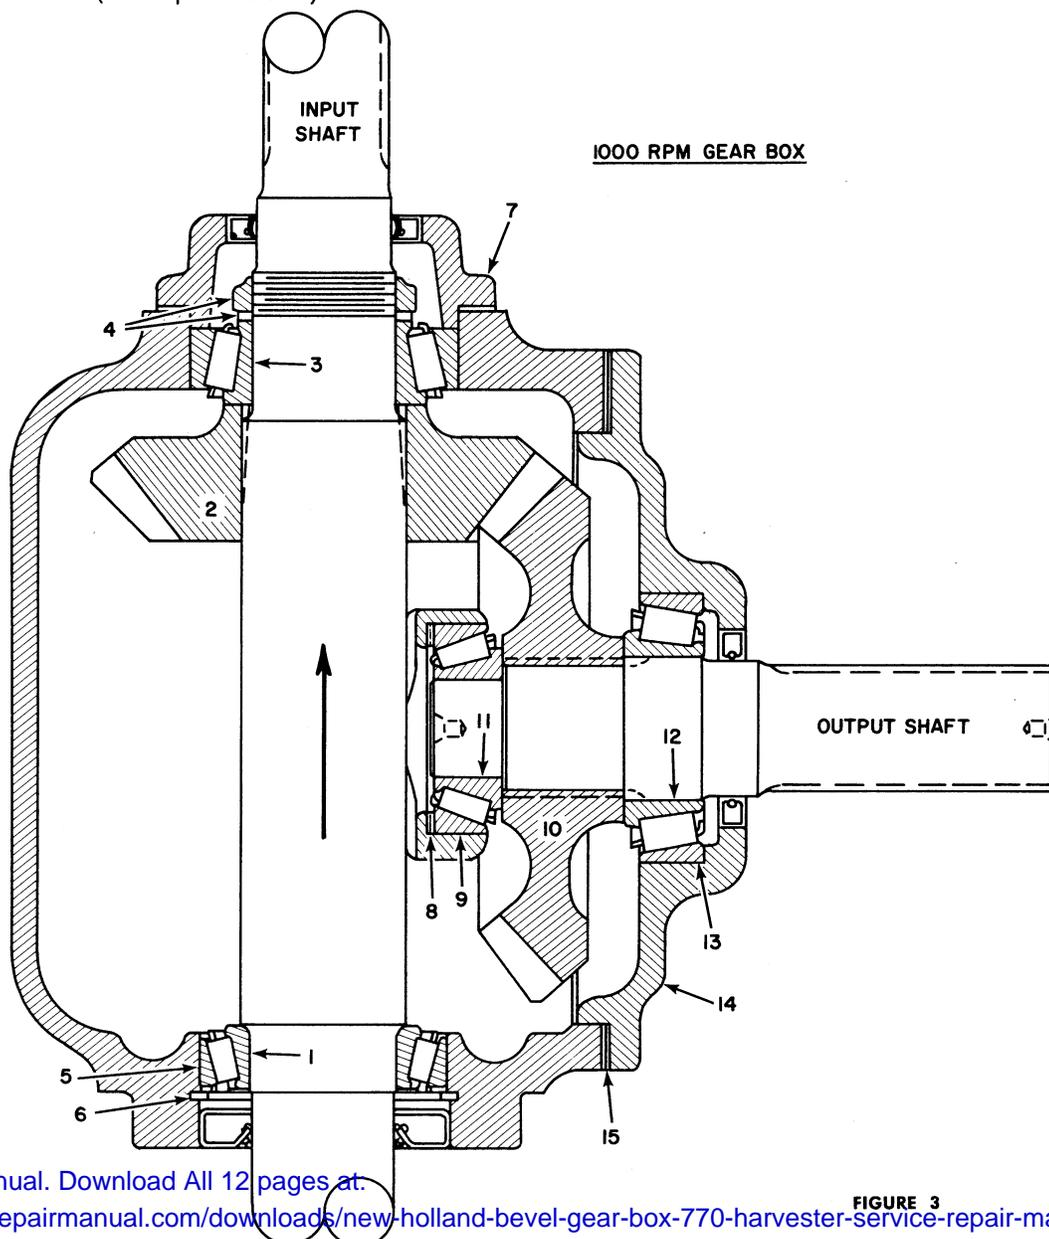

FIGURE 3
1. Before the input shaft is positioned in the gear box, press the bearing, item 1, shown in Figure 3, on the shaft.
2. Place the bevel gear, item 2, Figure 3, in the position shown and slide the input shaft through the gear box in the direction indicated in Figure 3. This bevel gear must be pressed on the shaft with 3500 to 5000 pounds. Use a pipe with an inside diameter of 1 3/4" to slide over the shaft to press the gear while supporting the bottom of the input shaft.
3. Position bearing, item 3, on the shaft and press it down tight against the bevel gear.
4. Install the washer, item 4, and turn the stake nut, item 4, down against the washer; tighten 1/4 turn more and lock by using a punch and deforming the edge of the nut down into the slot in the shaft.
5. Place the bearing cup, item 5, as shown in Figure 3. Press it in past the retaining ring groove by approximately 3/8" so sufficient room is available to install shims.
6. The exact amount of shims needed can not be determined until the bearing cup and bearing cap are installed on the other end of the shaft. It is recommended that, if you have not replaced the shaft and bevel gear with new parts, the shims removed during disassembly will be very close to the correct amount. Be sure the heaviest shims are against the retaining ring to prevent the thin ones from becoming deformed. If the shaft and bevel gear are new parts, it is suggested that two #163233 .030" shims, three #163234 .010" shims and three #163236 .005" shims be installed. Be sure the heaviest shims are against the retaining ring. Install the retaining ring, item 6.
7. Install the bearing cap, item 7, using four 3/8" x 1" cap screws with lock washers as shown in Figure 3. Add or remove shims under this bearing cap until the end play is removed from the input shaft. Preload the bearings so it requires 5 to 10
8. To determine the amount of shims required at item 8, Figure 3, the following information is needed:
a. A slip of paper will be packaged with bearing, item 9. This paper will have a shim factor (example: .010").
b. The bevel gear, item 10, Figure 3, will have an inscribed number (example: SC+4). This 4 means .004" shim.
Add the three example numbers. This gives a shim factor of .019". Place this amount of shims at point 8, Figure 3.
9. Install the bearing cup, item 9, in position as shown in Figure 3.
10. Press the 32-tooth bevel gear, item 10, on the output shaft with 3500-5000 lbs.
11. Install bearing, item 11, on the output shaft as shown in Figure 3.
12. Install bearing, item 12, as shown in Figure 3.